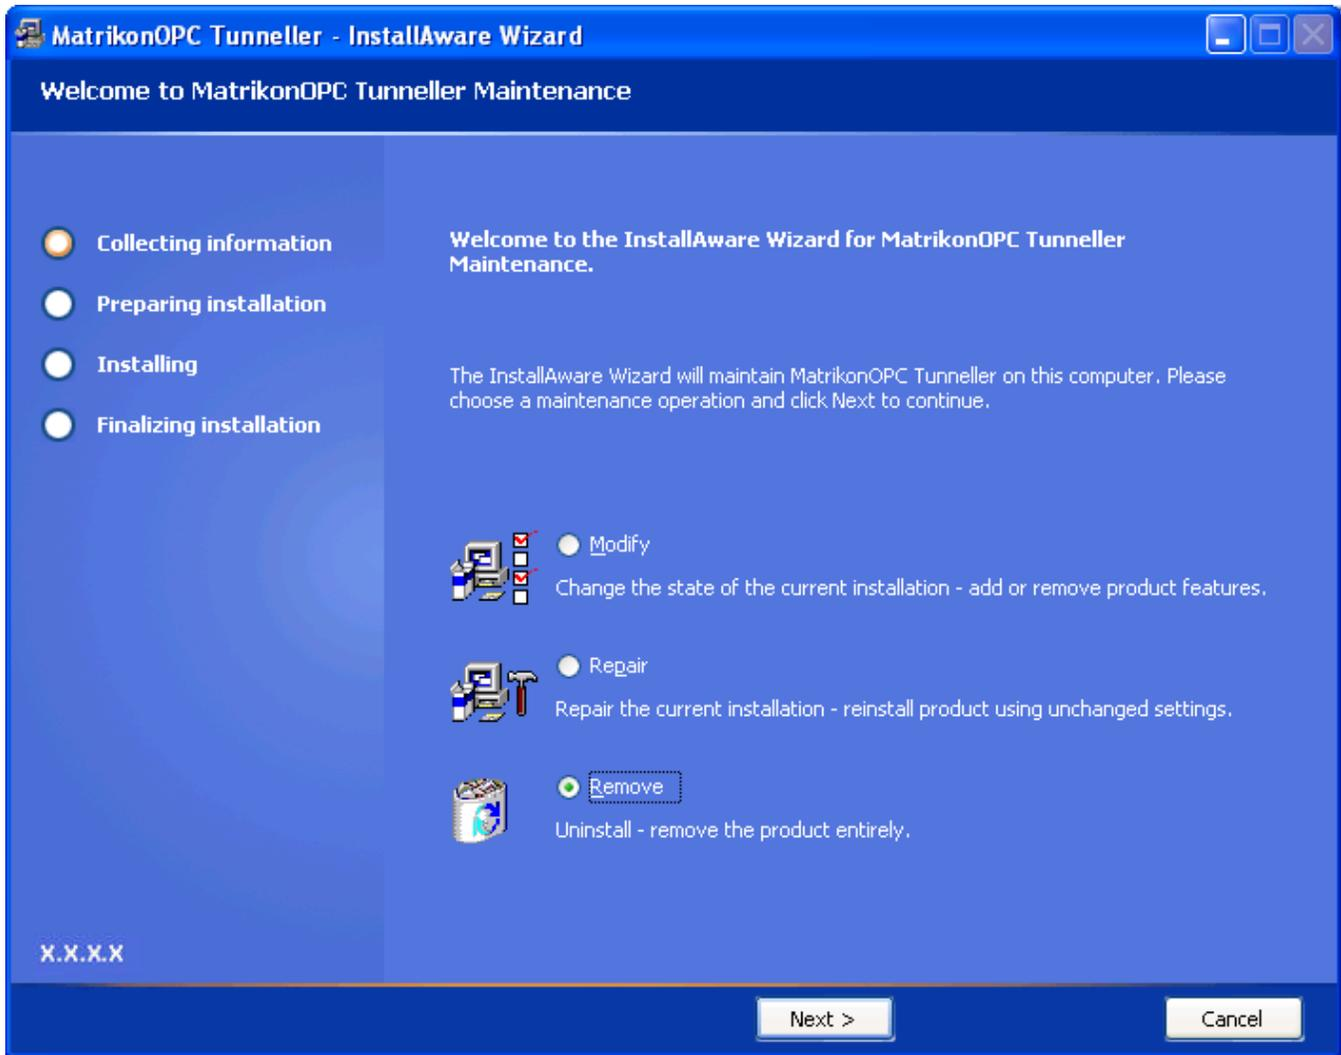

Figure 35 - Welcome to MatrikonOPC Tunneller Maintenance Screen
6. The **MatrikonOPC Explorer – InstallAware Wizard** appears and the **Welcome to MatrikonOPC Explorer Maintenance** screen (Figure 35) is displayed.